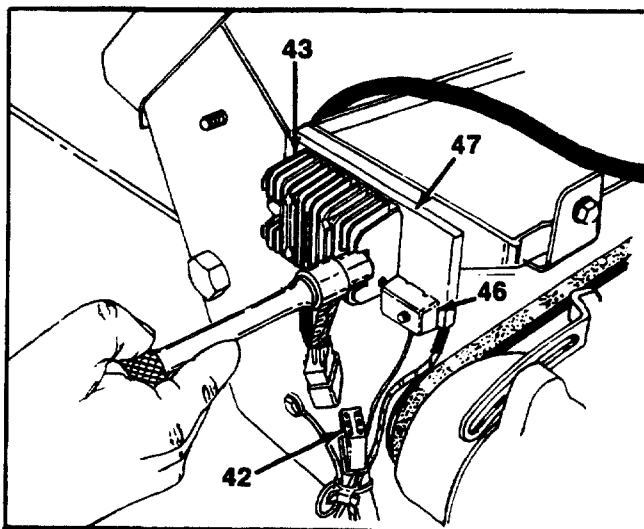

FIGURE 24.
27. Remove the hex bolt holding the regulator, circuit breaker and regulator panel. See figure 24.